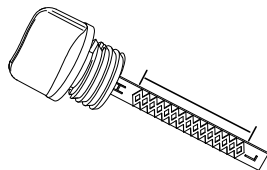

Figure 4-2. Safe Operating Range
4. Screw dipstick into filler neck. Verify oil level is within safe operating range. See Figure 4-2.